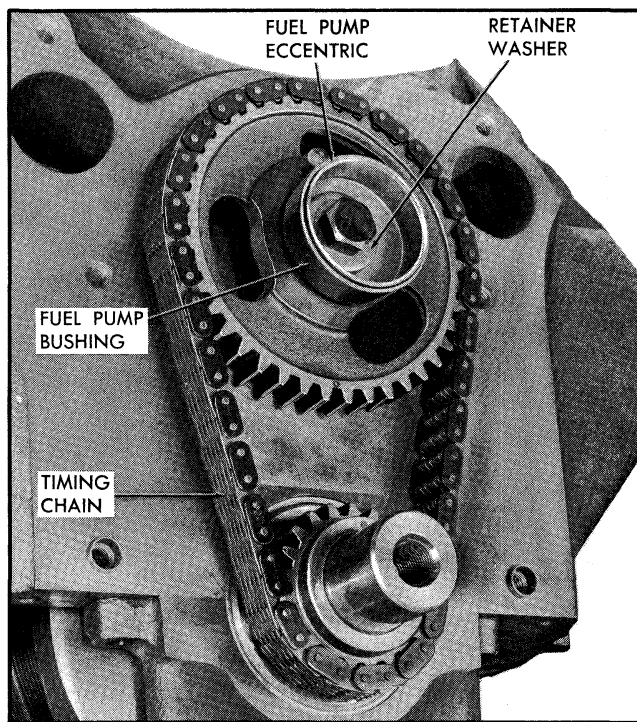

Fig. 6-119 Front of Engine With
14. If new fuel pump eccentric and bushing are to be installed, remove camshaft sprocket retainer bolt and retaining washer and remove the eccentric and bushing. Place fuel pump bushing over eccentric with rolled flange toward camshaft sprocket (Fig. 6-119).